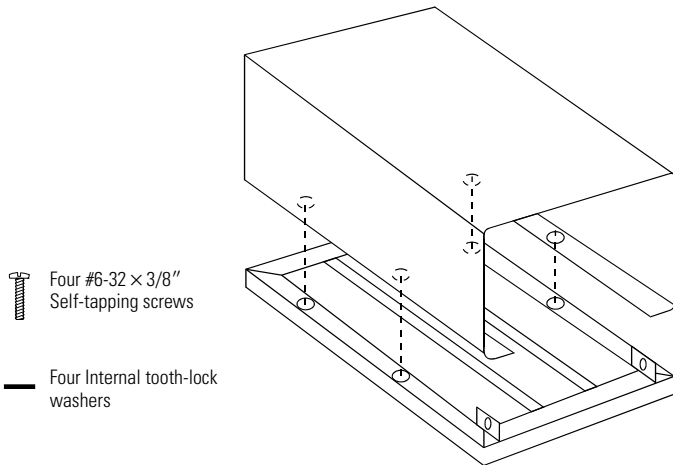

Figure 10. Installing the Battery Cover
9. Install the battery cover on the frame as shown in Figure 10.